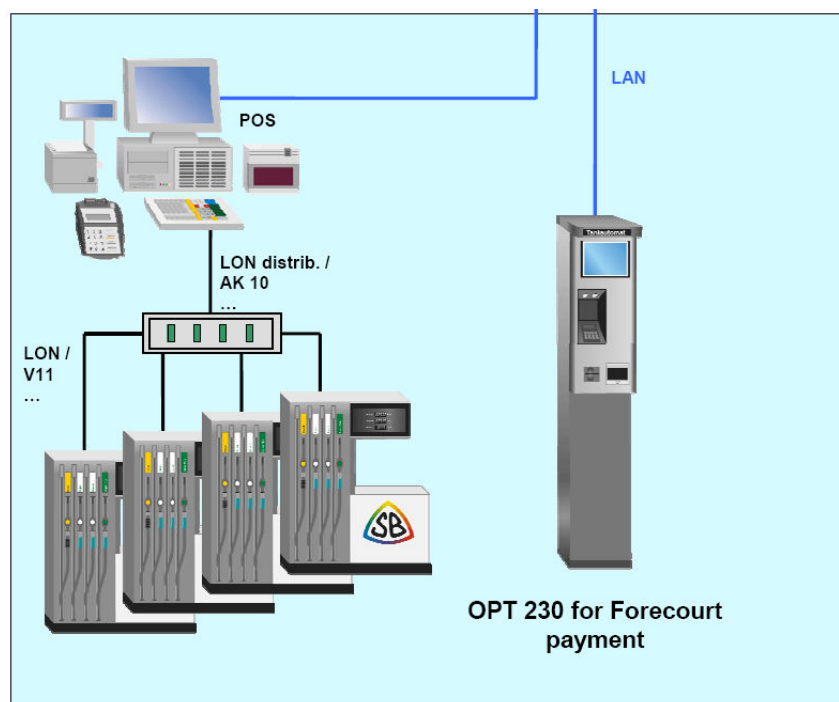

Figure 2 OPT230 configuration
- Figure 2 OPT230 Configuration